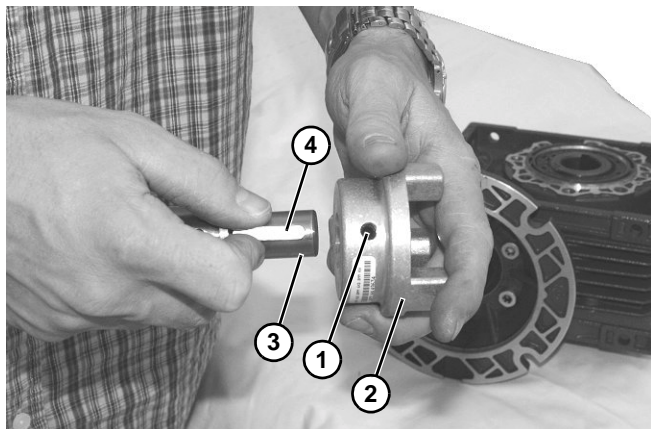

Figure 10
6. Inspect gear reducer output shaft assembly for wear or damage. If necessary, loosen set screw (**Figure 10, item 1**) and remove 3 jaw coupling (**Figure 10, item 2**) from gear reducer output shaft (**Figure 10, item 3**).
7. Remove and retain key (**Figure 10, item 4**) from shaft. Install new components for shaft reverse of removal. Tighten set screw (**Figure 10, item 1**) to 35 in-lb (4 N-m).
*If replacing the 3 jaw coupling on conveyor or output shaft, the coupling hub surface (**Figure 10, item 1**) should be flush to both output shaft (**Figure 10, item 2**).*